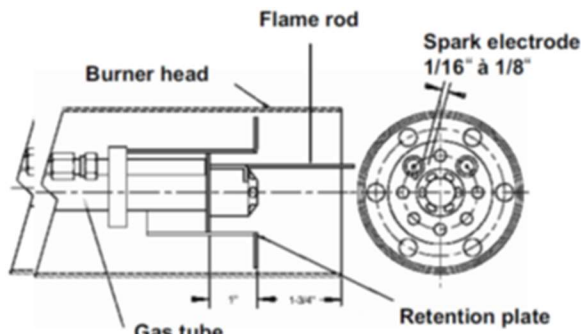
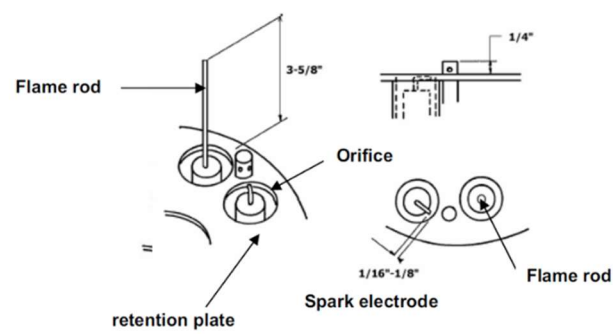

Figure 9: "C4" model only
Figure 10: "C6" to "C12" models
- Spark ignition electrode must be positioned and oriented as shown in **Figure 9** and **Figure 10**.